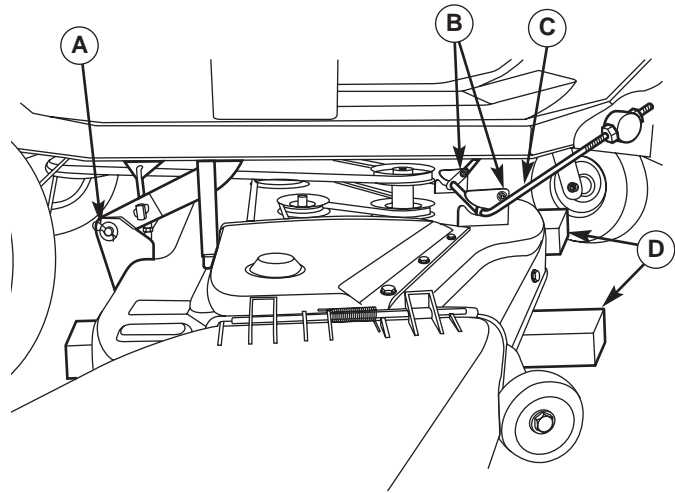
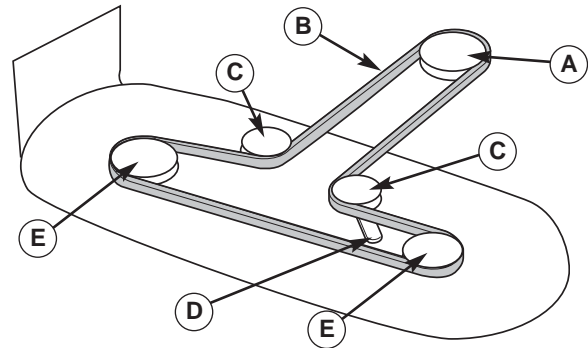

Figure 10. Mower Hitch Components
Figure 11. Mower Belt Routing
3. Use the mower belt release lever (D, Figure 11) to release belt tension. Remove the mower belt from engine pulley (A).
6. Place 4x4 wood blocks (D, Figure 10) under the front and rear lip of the mower deck to securely support it.
9. Remove the hair pin clip (A) securing the rear mower lift arm. Separate the lift arm from the mower deck. Repeat on both sides of the mower.
10. Remove the hitch rod (C) from the hitch bracket.
1. Slide the mower deck under the right side of the rider. Slide the mower forward and hook the front hitch rod (C, Figure 10) to the front mower deck hooks.
2. Slide the mower deck backwards and connect the rear lift arms to the mower deck. Secure with hair pin clips (A).
4. Use the cutting height switch to raise the mower until it is no longer resting on the 4x4 wood blocks (D).
5. Turn the ignition switch OFF and remove the key. Remove the 4x4 blocks (D).
6. Use the mower belt release lever to release mower belt tension, and install the belt as shown in Figure 11.